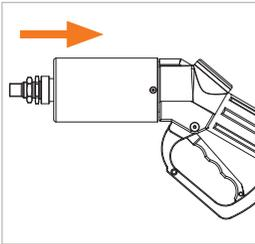

Figure 21
- ▶ Push the WEH® service receptacle into the fueling nozzle until it stops and hold the nozzle in this position (OFF position) (Figure 21).